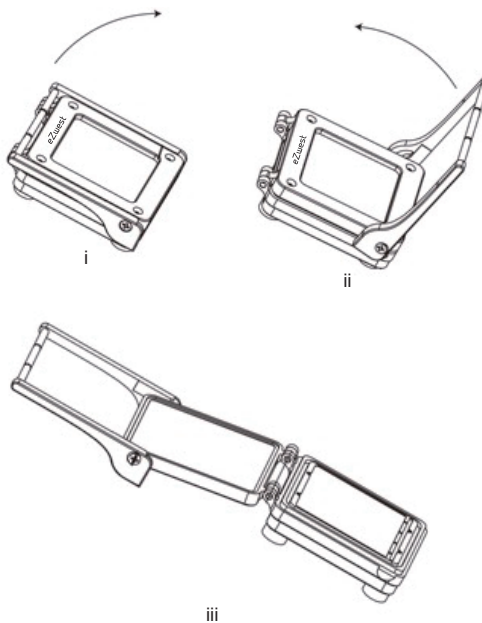

Fig.19
3. Open the membrane cassette: release the latch by rotating it up as shown in Fig. 19(i), lift the latch and pull it towards the top of the cassette as in Fig. 19(ii), the opened cassette is shown in Fig. 19(iii).